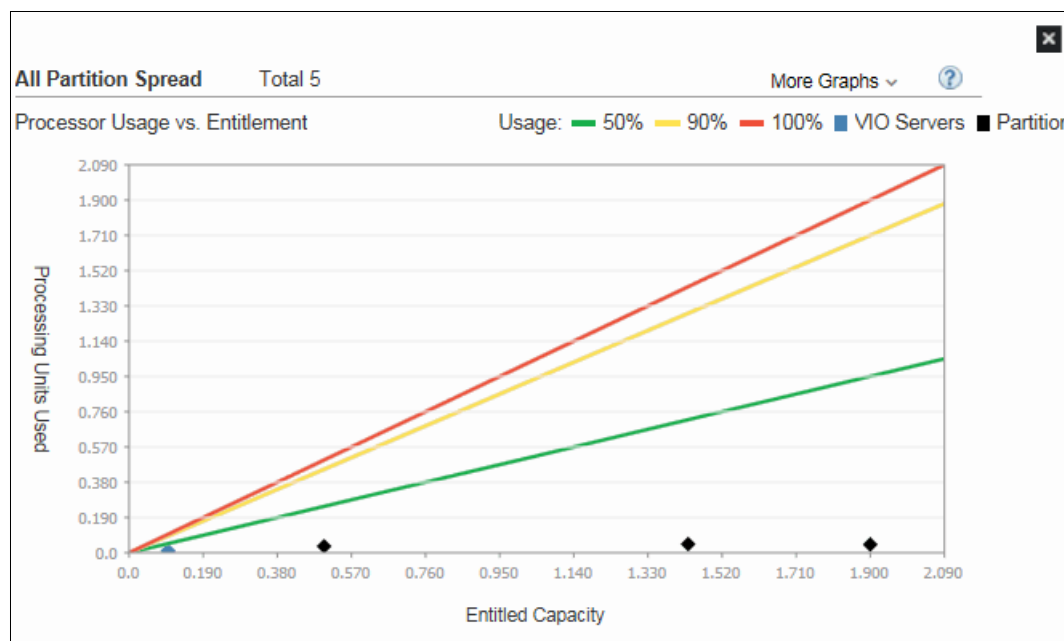

Figure 7-10 Detailed Spread graph
1. On the PCM home page window, click **Show Detailed Spread** (in the upper right corner of the Server Overview pane). The Detailed Spread graph opens in a new window (Figure 7-10).